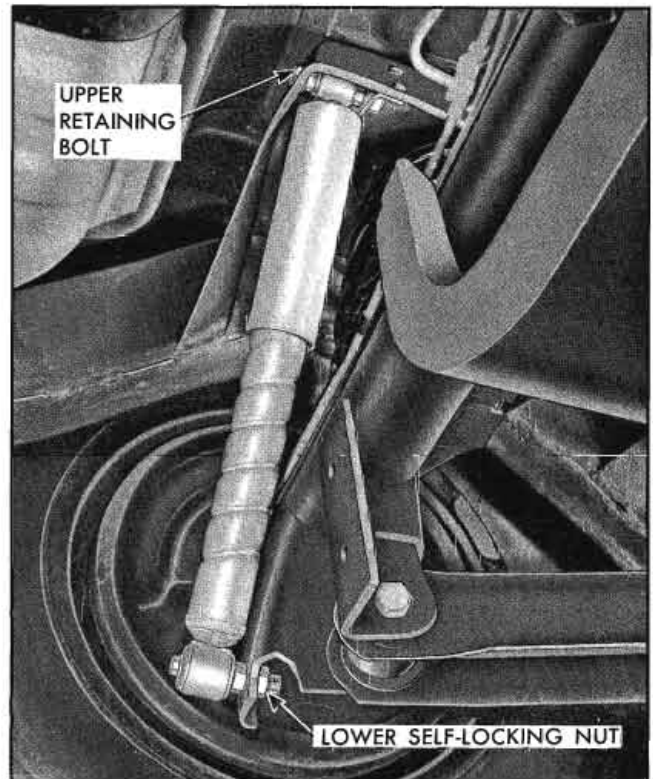

Fig. 3-28 Removal of Rear Shock Absorber
2. Remove self-locking nut from lower end and remove shock absorber (Fig. 3-28).